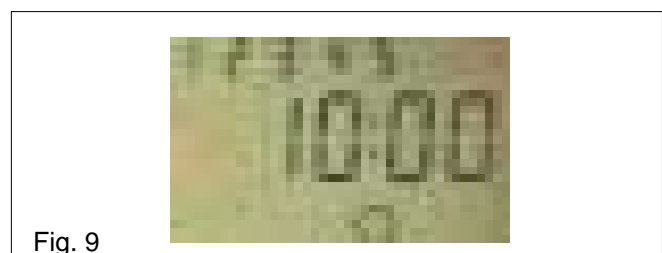

Fig. 9
- Press the Select button until the \odot symbol is shown (see fig. 9).